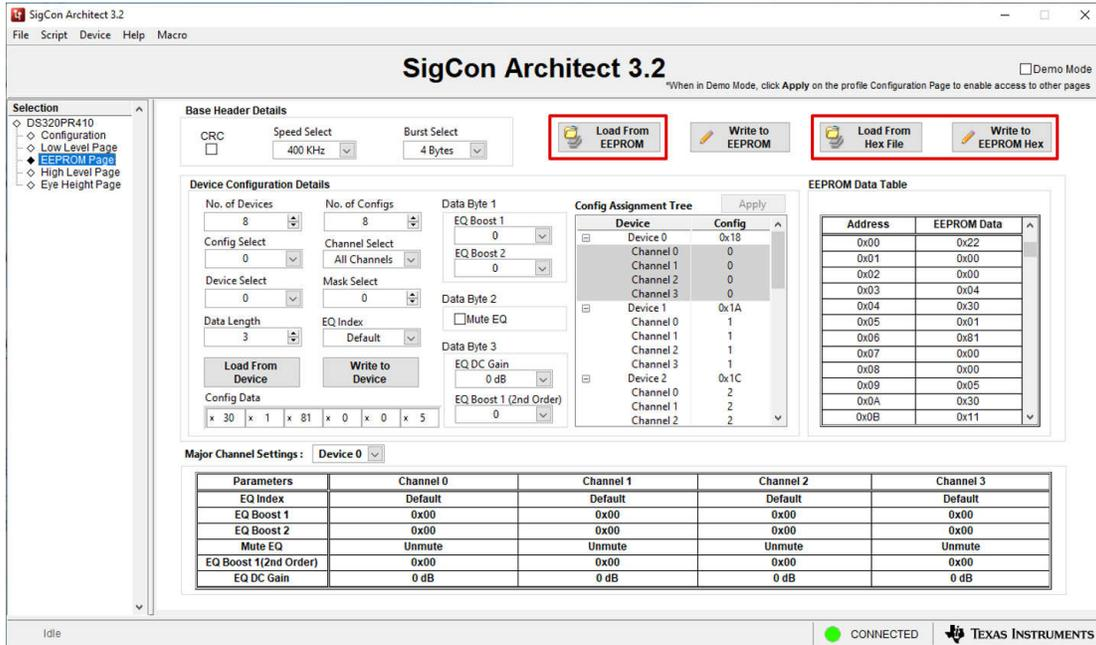

Figure 4-6. EEPROM Page: Load from EEPROM, Load from Hex File, Write to EEPROM Hex
- To save the current EEPROM settings configured using the GUI into a hex file, click the *Write to EEPROM Hex* button shown in Figure 4-6 to write a hex file with these settings. Save the hex file to any desired location using the File Explorer.